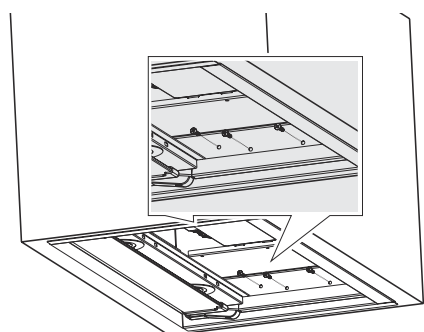

Fig. 12
3. → Mount the hood through the mounting holes on the shorter right and left sides with 3 pcs. of 3.9x16 screws to the cupboard (Fig. 12).